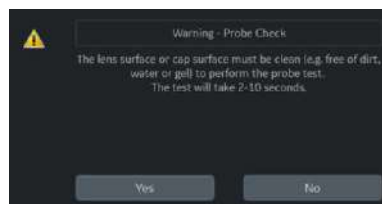

Figure 11-18. Probe Check Pop-up
2. A pop-up appears specifying to ensure the probe lens surface is clean. If the lens is clean, select **Yes** on the pop-up (see Figure 11-18). The probe check takes approximately 2 to 10 seconds.